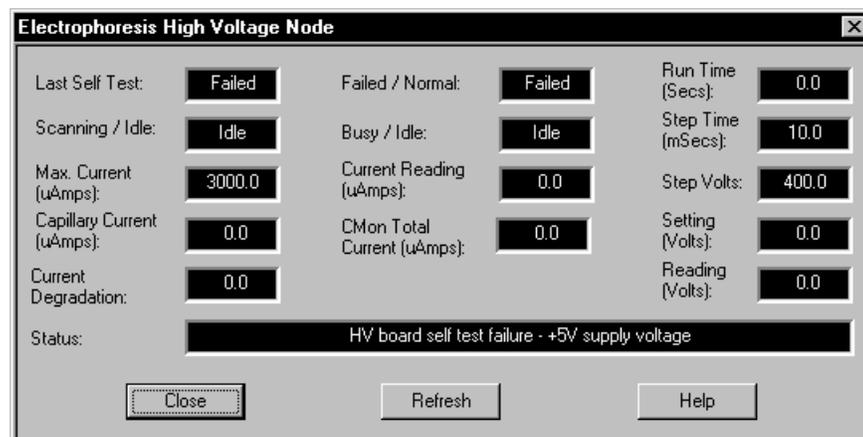

Figure 7-12. Electrophoresis High-Voltage Node.
**Electrophoresis High-Voltage Node**—This icon brings up the Electrophoresis High-Voltage Node window (figure 7-12), which displays the status of the BEAM board.